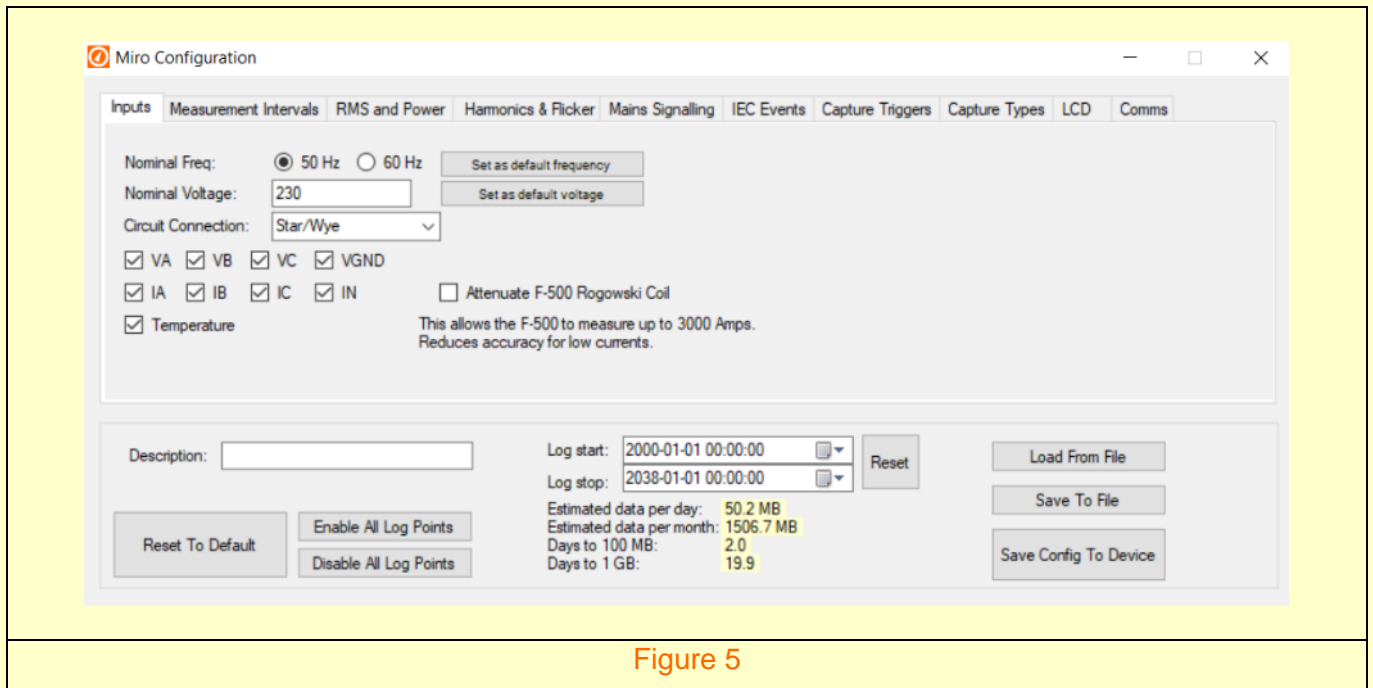

Figure 5
3. Select the 'Configuration' option, the user will be prompted with a window as shown in Figure 5.